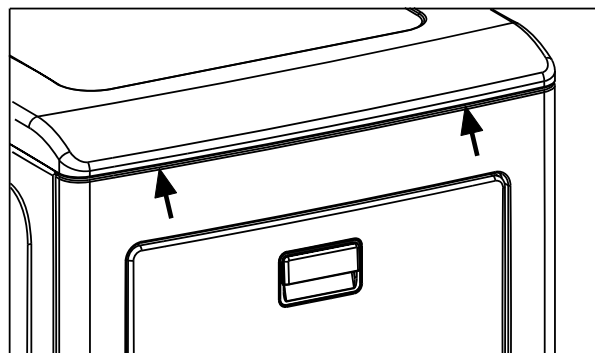

Figure 2
4. Use a thin flat head screwdriver to disengage the spring clips under the top cover. (Figure 2)